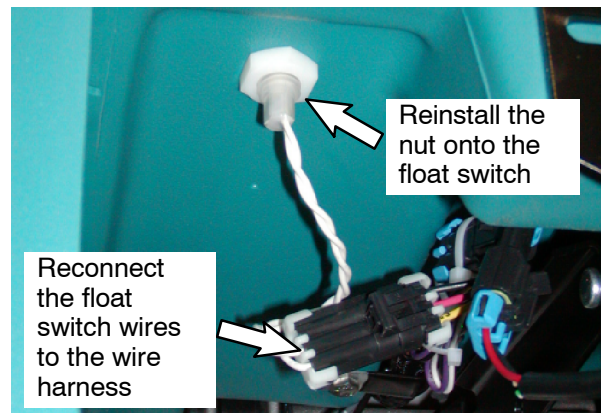

FIG. 7
5. Tighten the nut back onto the float switch. Be sure the mark on the float switch remains at 12:00. Refer to Fig. 7.
6. Reconnect the float switch wires to the wire harness. Refer to Fig. 7.